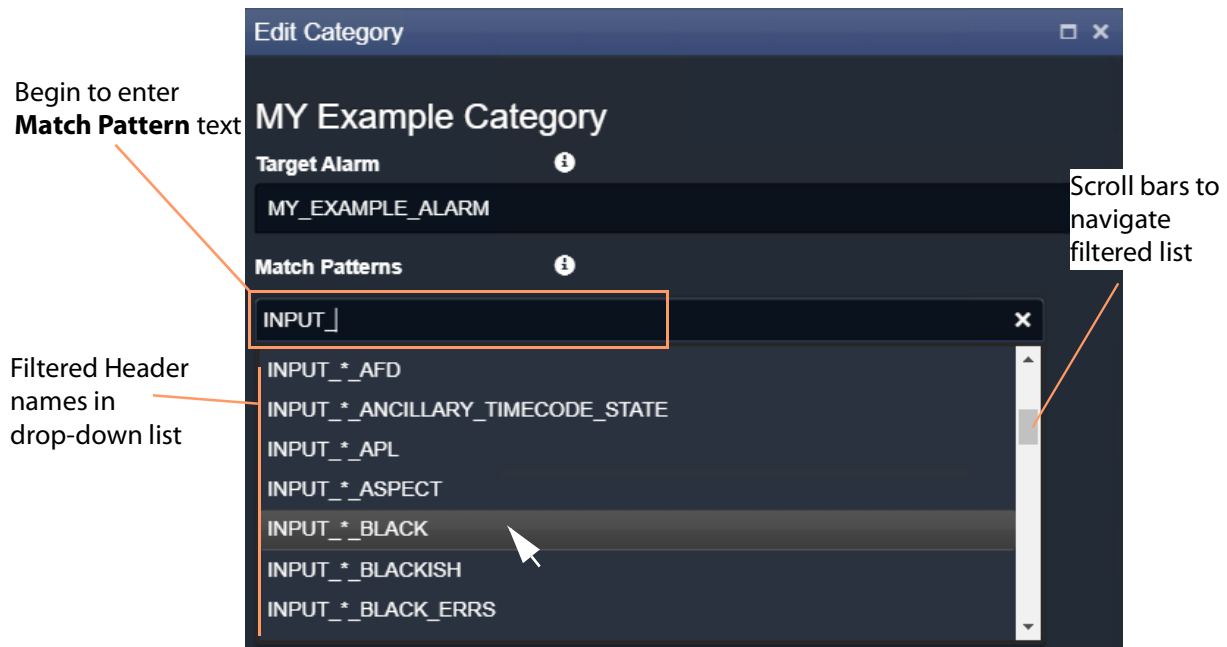

Figure 58: Select a Match Pattern From Drop-Down List
- 2 In the **Match Patterns** text box, begin entering a message Header **Match Pattern** text string. For example, "INPUT\_". As the text string is entered, a drop-down list appears showing all the candidate message Header names filtered on the entered text. See Figure 58.